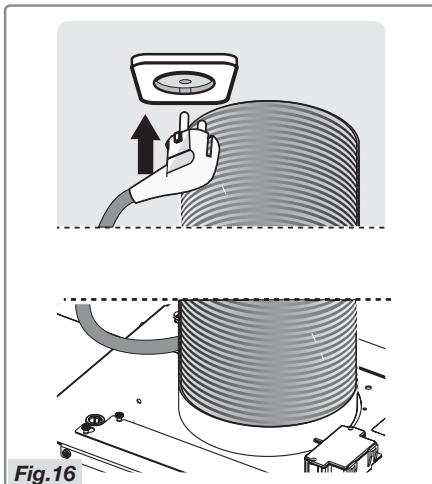

Fig. 16
- Insert the plug into the disconnected wall socket (Fig.16).